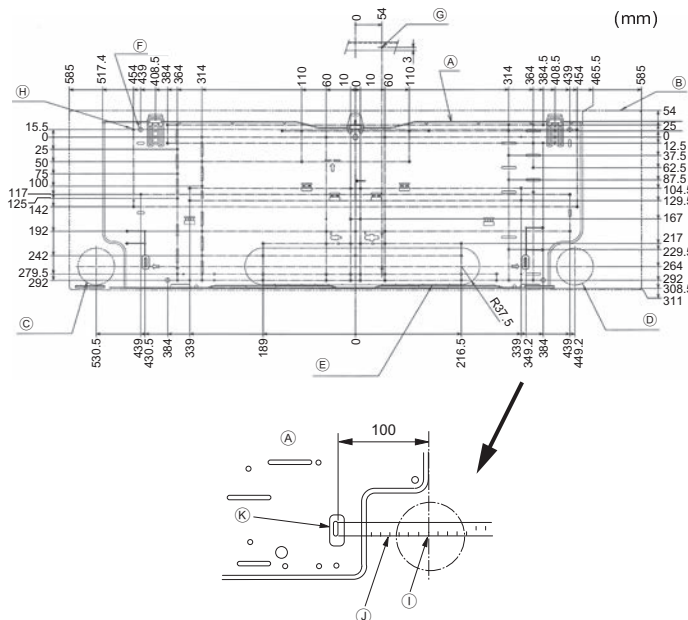

Fig. 3-2
■ PKFY-P·VKM-E (Fig. 3-2)
- Ⓐ Mount board ①